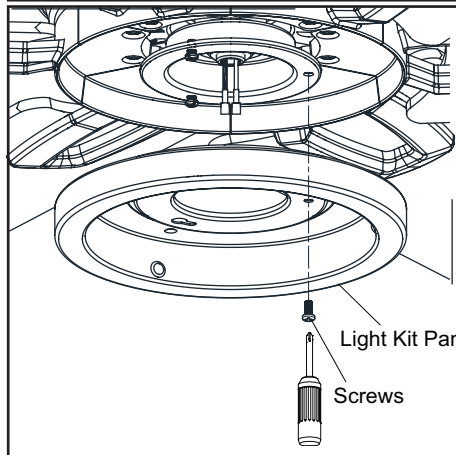

Figure 13
1. Loosen but do not remove two of three mounting screws from the fan motor assembly; Remove one mounting screw. (Figure 13)
2. Push the light kit pan up to the fan motor assembly so that the two loosened screw heads fit into the keyhole slots. Turn the light kit pan clockwise, then tighten the screws. Re-install the screw that was removed in step 1 and tighten firmly. (Figure 13)